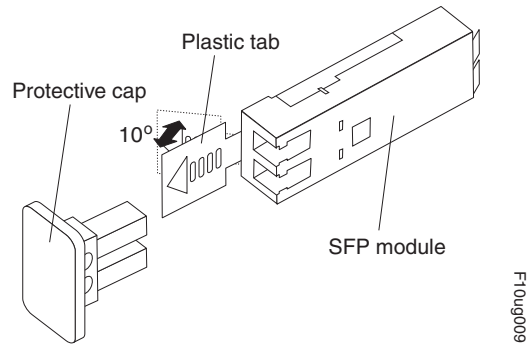

Figure 22. Unlocking the SFP module latch - plastic variety
- For SFP modules that contain plastic tabs, unlock the SFP module latch by pulling the plastic tab outward 10°, as shown in Figure 22 on page 55.